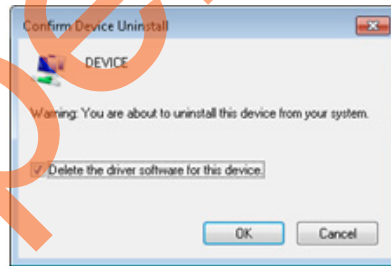

Figure 17 • Confirm Device Uninstall
- b. Select the **Delete the driver software for this device** check box as shown in Figure 17.